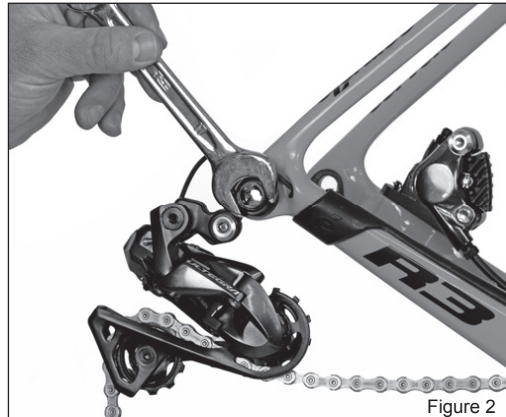

Figure 2
6. Using a 17 mm open end wrench, remove the hanger fixing nut from the outside of the frame on the derailleur. These are threaded with traditional right-handed threads so turn it "lefty-loosey." (Figure 2)